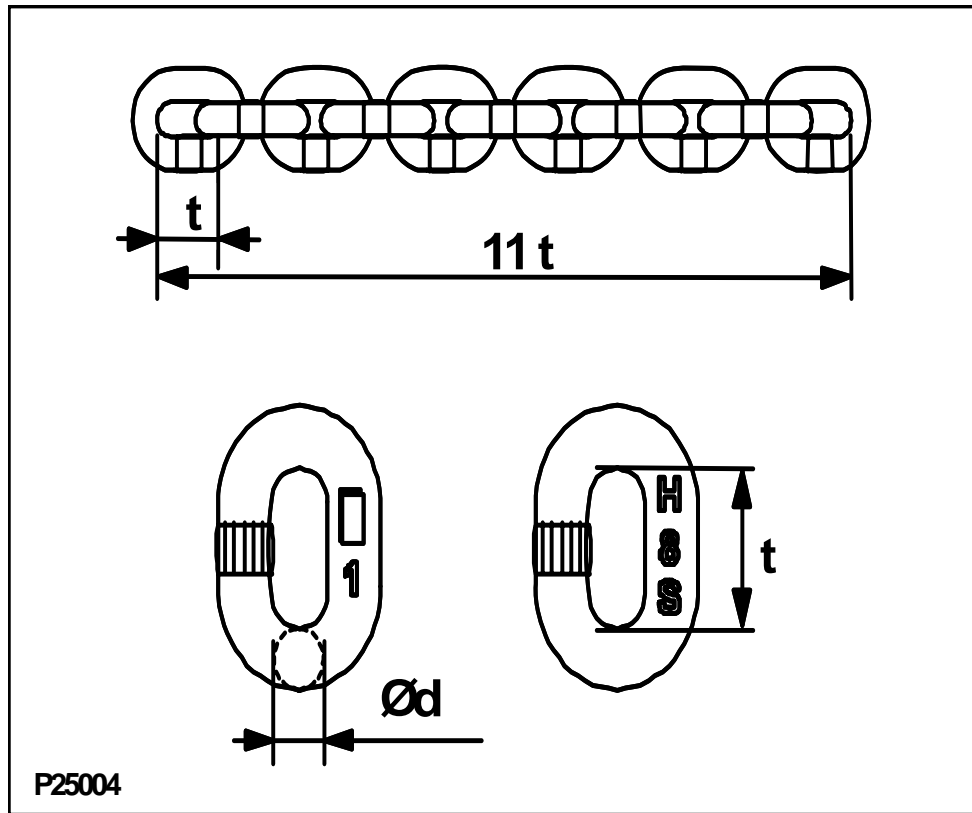

Figure 5.3
Measure the following chain dimensions at several points on chain: (Figure 5.3)
5.6 Load Chain Specifications (see Figure 5.3)